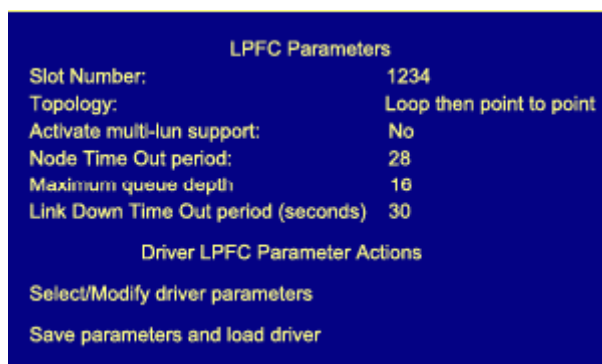

Figure 6: LPFC Parameters
- Press the <Enter> key. A screen similar to Figure 6 appears: